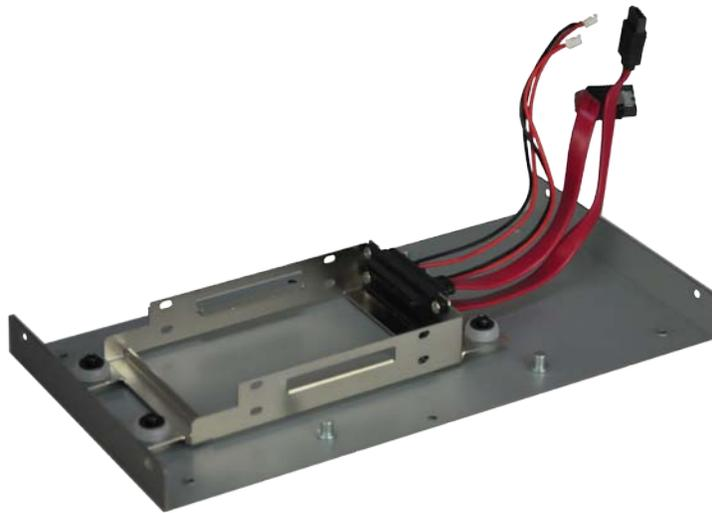

Figure 3-2: Remove the Cover from ECN-360A-ULT3
Step 2: Unplug the SATA signal and power cables connected to the ECN-360A-ULT3, and then put the cover on a flat surface (**Figure 3-2**).